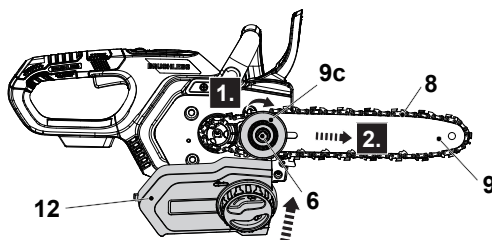

Fig. 5
6. Rotate the turning wheel (9c) clockwise to adjust the guide bar (9) towards the right to tighten the saw chain (8), then align and place the chain saw cover (12) over the mounting bolt (6) (Fig. 5).